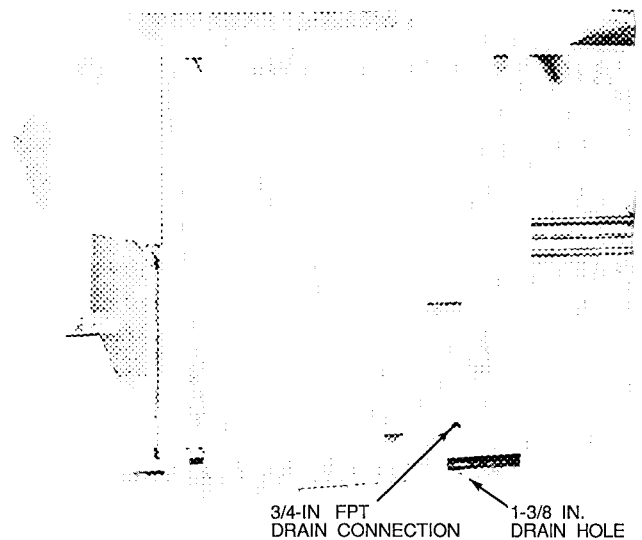
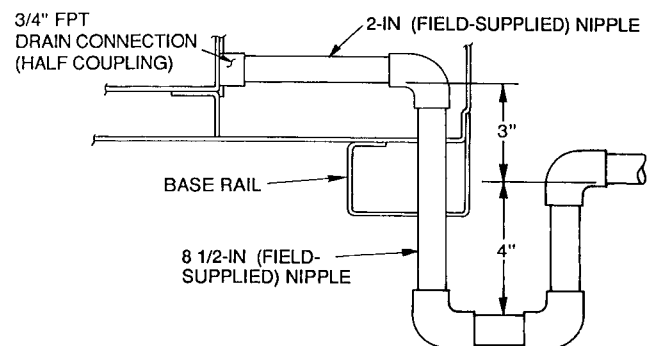

Fig. 10 – Condensate Drain Details
Fig. 11 – Condensate Drain Piping Details
Step 6 – Trap Condensate Drain — See Fig. 10 for drain location. One 3/4-in. half coupling is provided inside unit evaporator section for condensate drain connection. An 8 1/2 in. x 3/4-in. diameter and 2-in. x 3/4-in. diameter pipe nipple, coupled to standard 3/4-in. diameter elbows, provides a straight path down through hole in unit base rail (see Fig. 11). A trap at least 4-in. deep must be used.